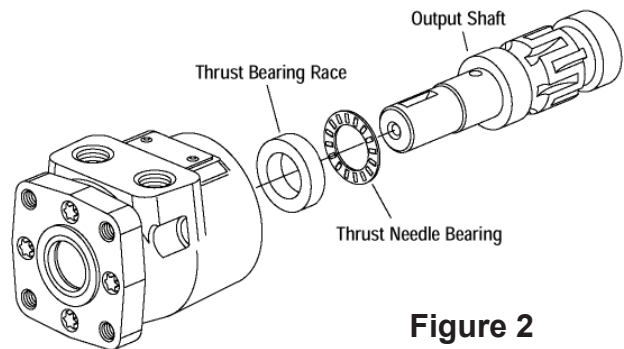

Figure 2
3. Unclamp the motor and remove the output shaft, thrust needle bearing, and thrust bearing race (see Figure 2).